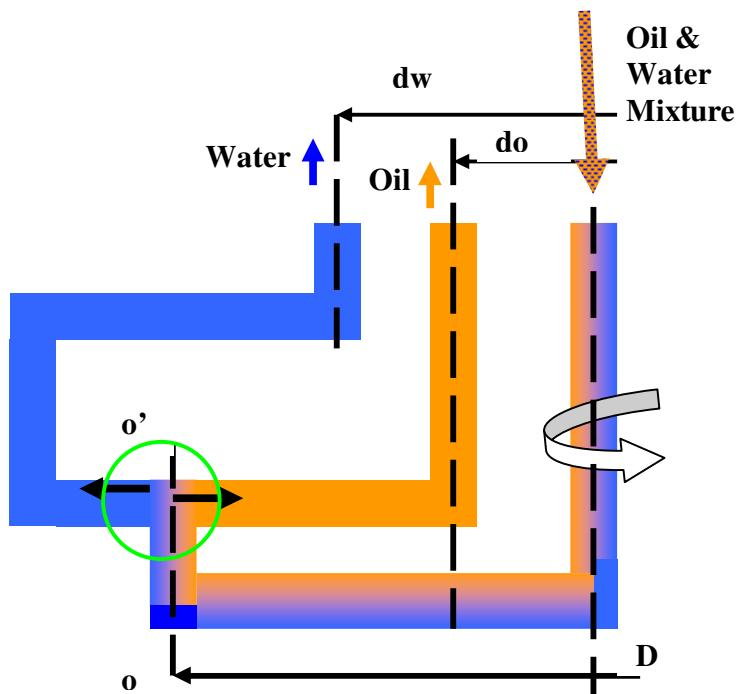

Fig. 1.5
**Case 5:** If the “U” tube in ‘Case 4’ above is kept horizontally and rotated at high speed, the centrifugal force instead of gravity force acts on the oil/water/solid particles. Since the centrifugal force on the water or solid particles is greater due to higher density than that acting on the oil particles, the water or solid particles move out and reach a position outward of oil-and-water interface. This has been explained in the Figure 1.5.